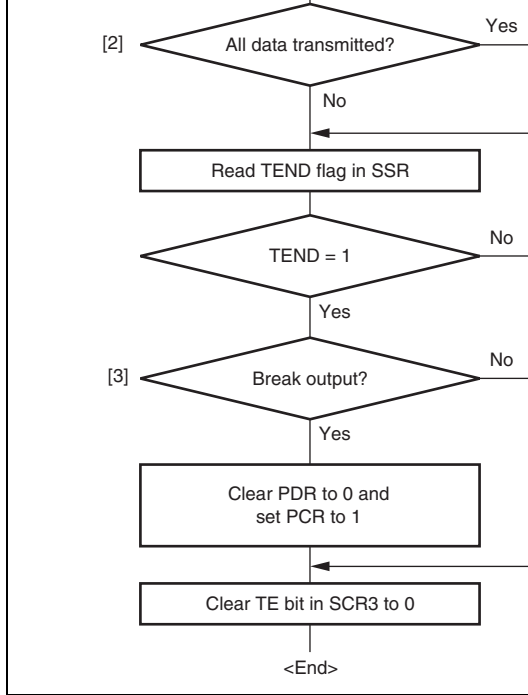

Figure 14.7 Sample Serial Transmission Data Flowchart (Asynchronous Mode)
6. Figure 14.7 shows a sample flowchart for transmission in asynchronous mode.